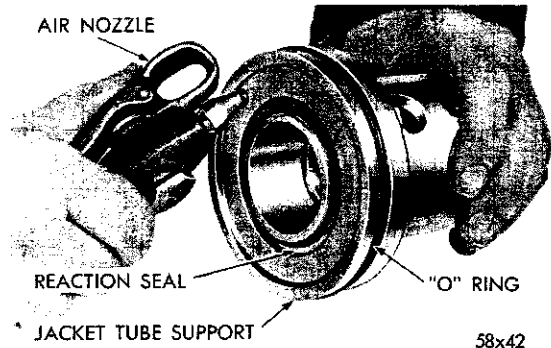

Fig. 32—Removing the Reaction Seal from the Jacket Support
- (2) Remove the large "O" ring from the groove in the jacket support.
- (3) Remove the reaction seal from the groove in the face of the jacket support with air pressure directed into the ferrule chamber (Fig. 32).
- (4) Inspect all the grooves for burrs. Make sure the passage from the ferrule chamber to the upper reaction chamber is unobstructed.